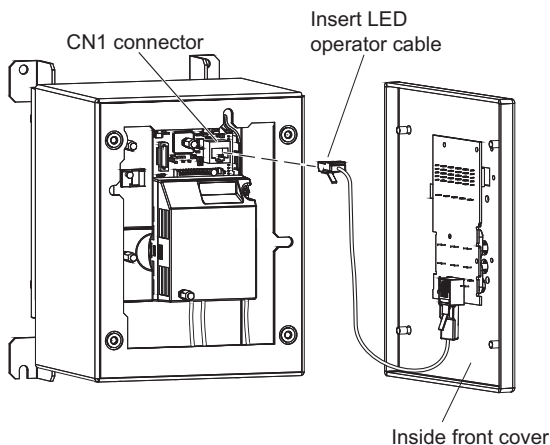

Figure 28 Insert LED Operator Cable
- 28.** For IP66/UL Type 4X enclosure models, insert the LED operator cable from the front cover into connector CN1 on the drive (see Figure 28).